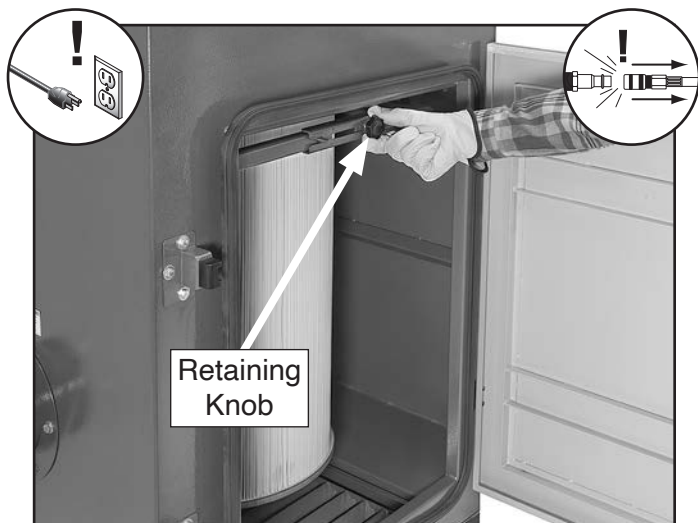

Figure 38. Loosening retaining knob.
2. Pull to release (2) compression latches and open maintenance door.
3. Loosen filter retaining knob (see **Figure 38**).